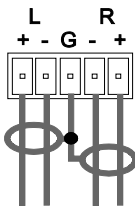

Figure 2: Connecting the Balanced Stereo Audio Input/Output
- A balanced stereo audio input/output connection, see Figure 2